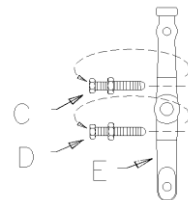

FIG. 4
4. Reposition stop screws **C** and **D** as shown in Fig. 4.